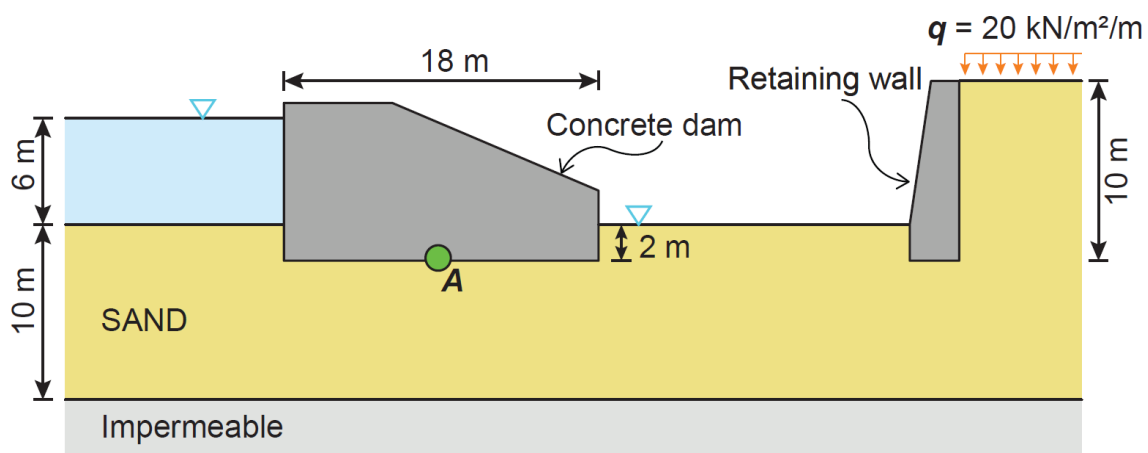

Figure QB2. Cross-section of the site comprising SAND
B2. A site underlain by SAND is to be developed as part of a construction project (**Figure QB2**). Development of the site includes a concrete dam to retain a body of water, as well as a wall to retain soil that will carry a surcharge load of $20 \text{ kN/m}^2/\text{m}$.
- ii) Draw a flow net for seepage under the concrete dam in **Figure QB2**. [Note: You must draw **Figure QB2** to scale to obtain a solution. Ignore the adjacent retaining wall for the purpose of drawing the flow net.]
- b) The 10 m high retaining wall shown in **Figure QB2** supports SAND and carries a surcharge load of $20 \text{ kN/m}^2/\text{m}$. The SAND has an effective friction angle of 32° and a unit weight on 19 kN/m^3 . Determine the total forces acting on the back of the wall (active thrust) per metre run. Assume the water table is below the base of the retaining wall in your analysis.